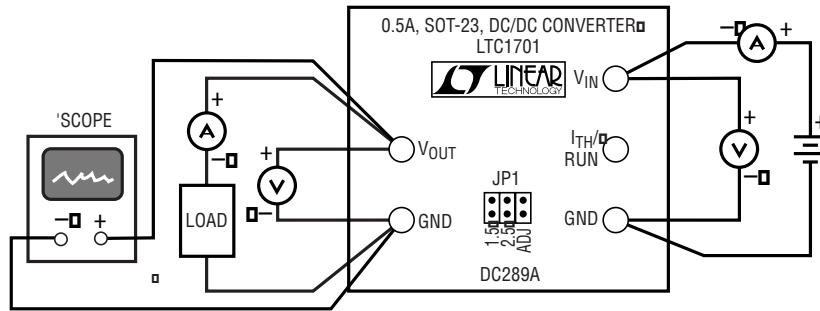

Figure 1. DC289A Connection Diagram
4. Connect the load between the V_{OUT} and GND terminals. Refer to the connection diagram (Figure 1) for proper measurement equipment setup.